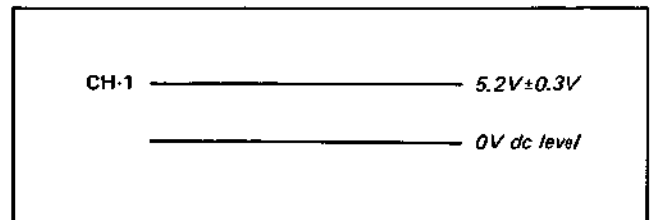

Fig. 4-3-2. Drum free speed adjustment
- (5) Adjust RV10 for 5.2 ± 0.3 Vdc. (See Fig. 4-3-2.)